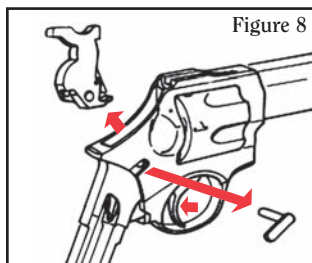

Figure 8
5. Pull trigger and remove hammer pivot while holding trigger in a rearward position. Lift hammer out of the top of the frame while trigger is held in a rearward position (see Figure 8).